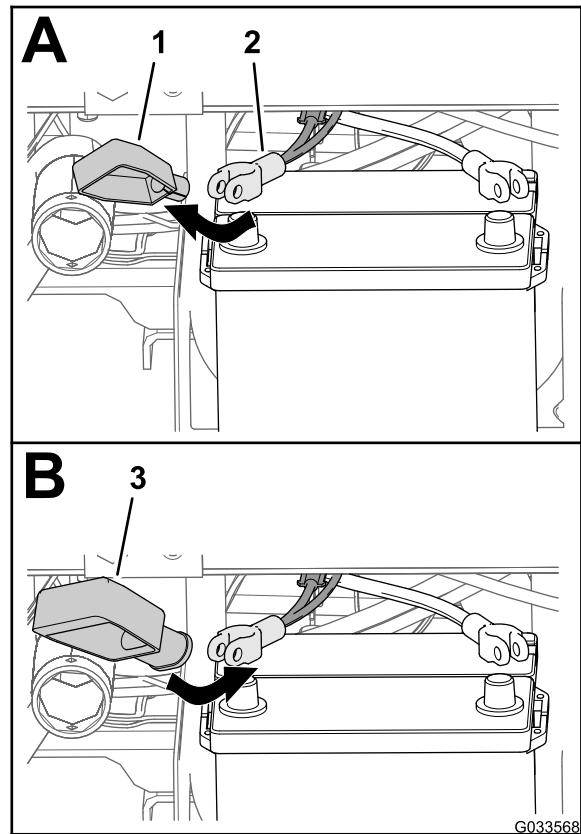

Figure 28
- Remove the cover (narrow) from the positive battery cable (Figure 28).
- Install the wide battery cover over the positive battery cable as shown in Figure 28.